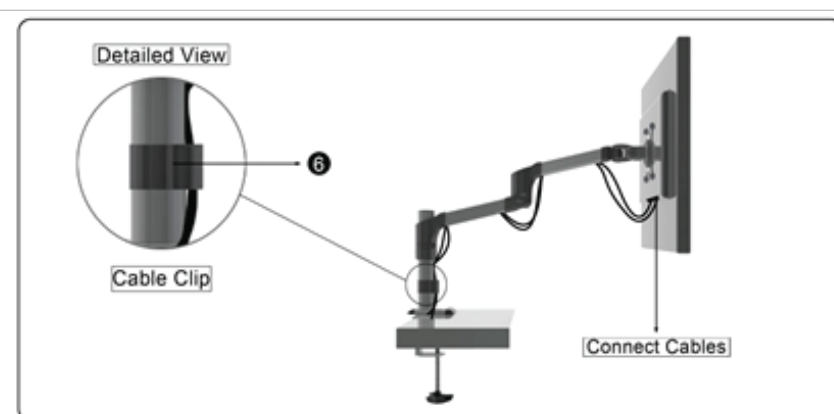

Figure 13
3. Use the Cable Clip (6) to secure cables to the base of the Pole. **(See Figure 13)**